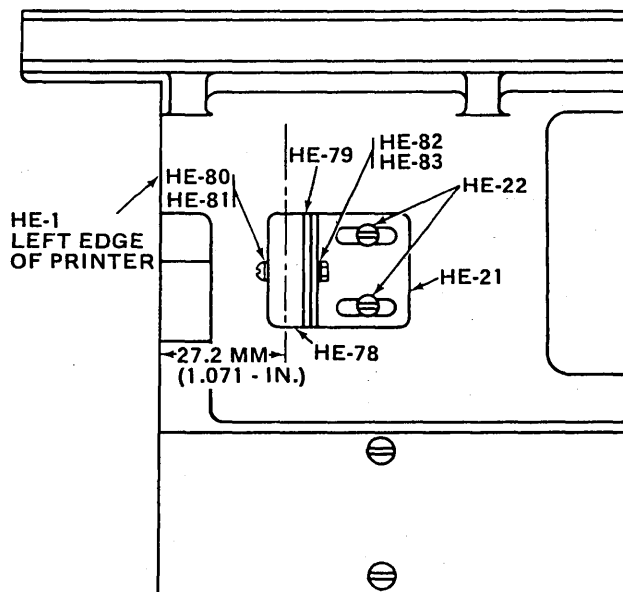

Figure 5-9. LOCATION OF LEFT REED SWITCH (TOP VIEW)
E. STATIC ADJUSTMENT/LIMIT (REED) SWITCH (FIGURE 5-9)